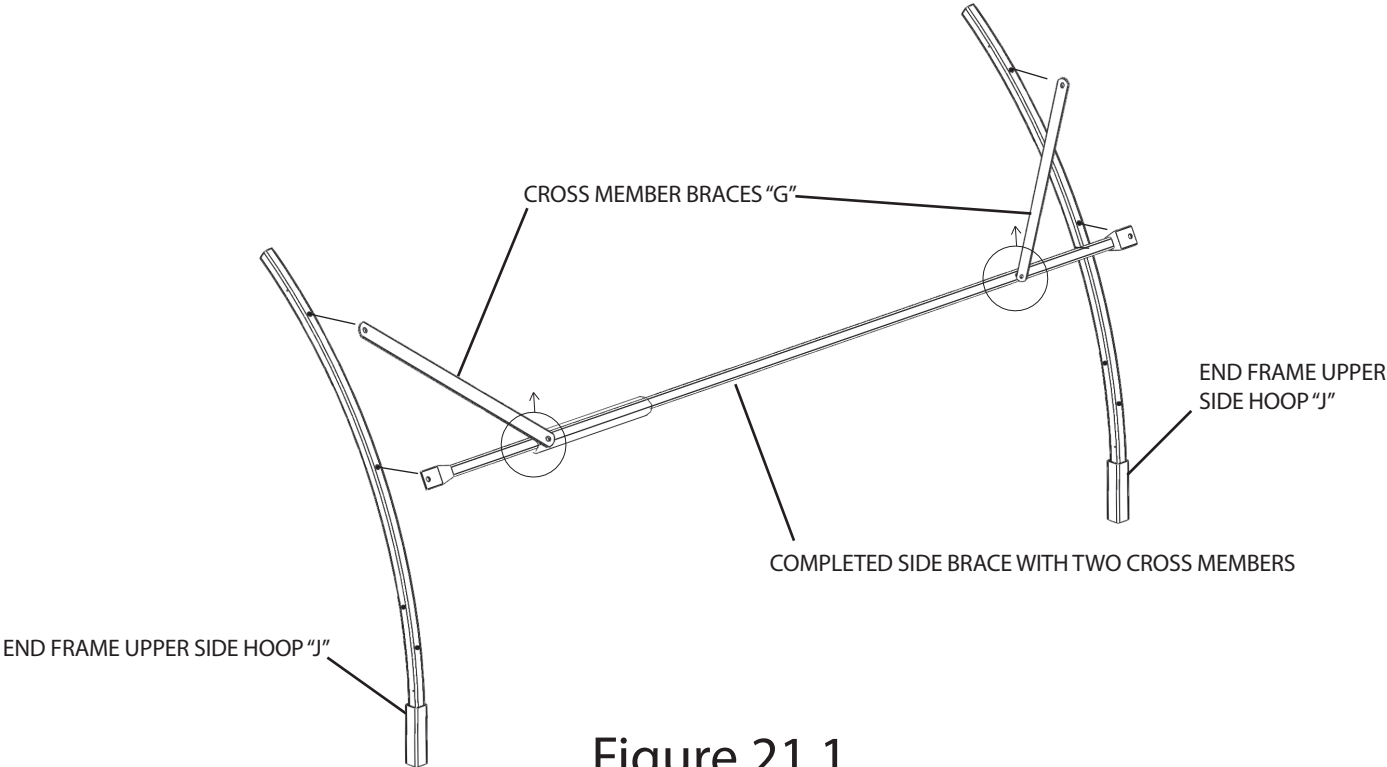

Figure 21.1
STEP 13: Locate the (3) parts that will be assembled to create the fourth section of the bale blind frame. These parts are (1) COMPLETED SIDE BRACE WITH TWO CROSS MEMBERS and (2) END FRAME UPPER SIDE HOOPS "J". Using the hardware connection in (2) places, align and fasten the hole ends in the COMPLETED SIDE BRACE WITH TWO CROSS MEMBERS with the middle hole in the the (2) END FRAME UPPER SIDE HOOP "J", fastening with (2) Bolts and (2) Nuts. Next align the hole ends of the (2) CROSS MEMBER BRACES "G" with the corresponding holes in the (2) END FRAME UPPER SIDE HOOP "J", and fastening with (2) Bolts and (2) Nuts, as illustrated in Figure 21.1.
NOTE: Step 13 assembly is similar to Step 9. On the COMPLETED SIDE BRACE WITH TWO CROSS MEMBERS, make sure the (2) Set Screws already installed are facing upwards, as illustrated in Figure 21.1.